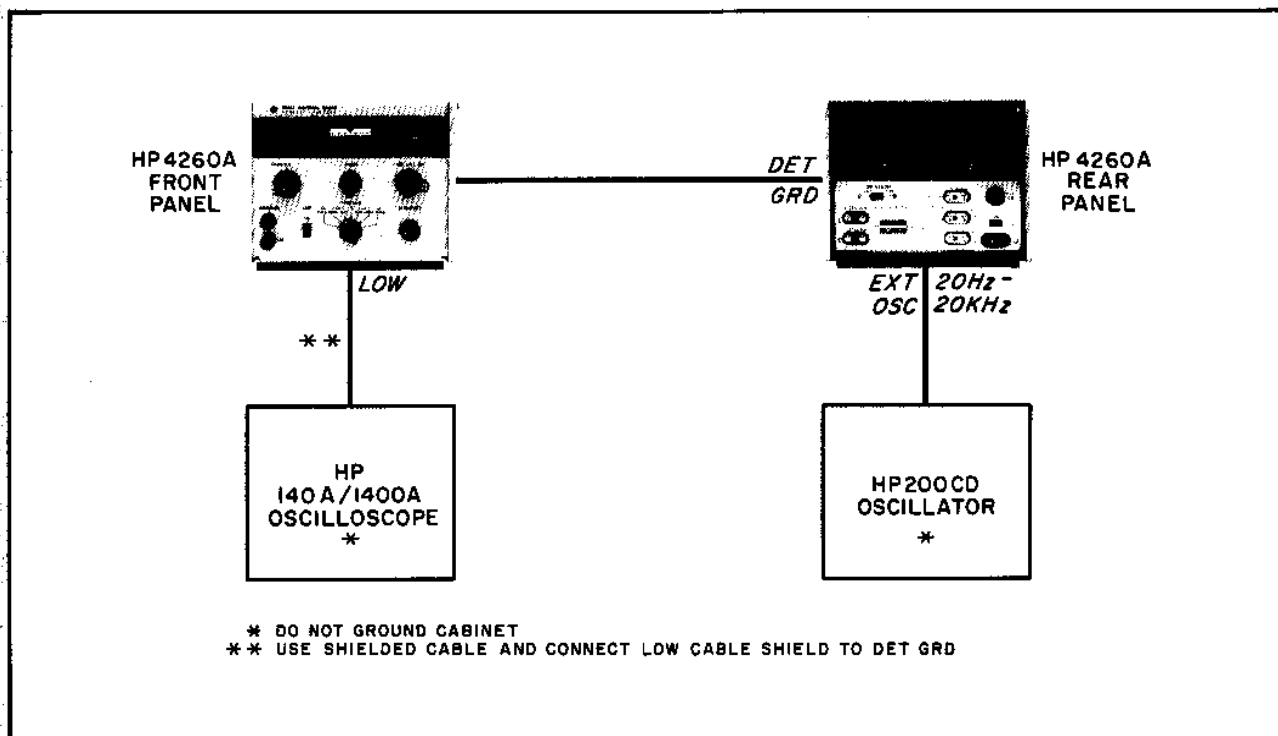

Figure 5-5. Test Setup for Adjustments
5-30. INTRODUCTION. The procedures in Paragraphs 5-31 through 5-38 outline checks and adjustments for the components in the bridge circuit. These include fixed 0.2  $\mu F$  capacitor C1, compensating capacitor C305, CRL resistor R3, trimmers C103, C104, C3, and accuracy of resistors in the RANGE switch. The test equipment setup is shown in Figure 5-5. These checks and adjustments should be performed in the order listed when a comprehensive overall instrument checkout is desired. Test equipment for these checks is listed in Table 5-6.
5-31. C1 CHECK. To check fixed bridge capacitor C1, connect the instruments as shown in Figure 5-5.
a. Connect the test setup as shown in Figure 5-5.
a. Connect test equipment setup as shown in Figure 5-5.
- a. Connect test equipment as shown in Figure 5-5.
- a. Connect test equipment setup as shown in Figure 5-5.
a. Connect test setup as shown in Figure 5-5.